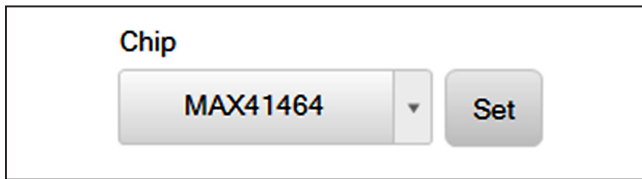

Figure 9. Part Selection
- d. Select the appropriate part in the “Chip” drop-down box and click the <Set> button (see Figure 9).